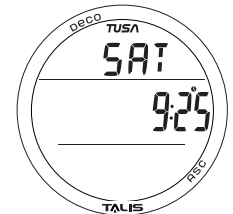

Fig. 48 - DESAT TIME
**Desat Time**, information includes (Fig. 48):